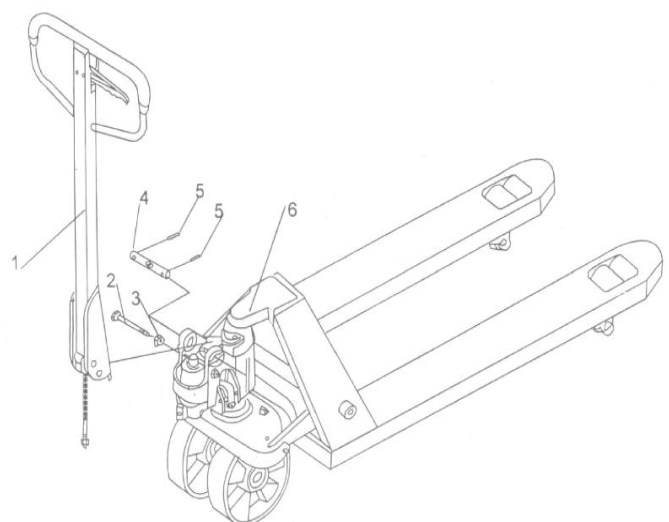

Fig.5 Tiller assembling (symbolic)
- c) Press the tiller arm down; take away the pin (2, Fig. 5).
d) Set the control lever of the handle to 'QUICK LIFT' (LIFT) position, then raise the lever plate with the pin (2, Fig. 5) and insert the adjusting bolt into the front slot of lever plate. Note: Keep the adjusting nut under the lever plate.
e) Use a hammer to insert the 2nd dowel pin (5, Fig. 5) into the 2nd hole of the axle. The draw-bar is now assembled to the pump.